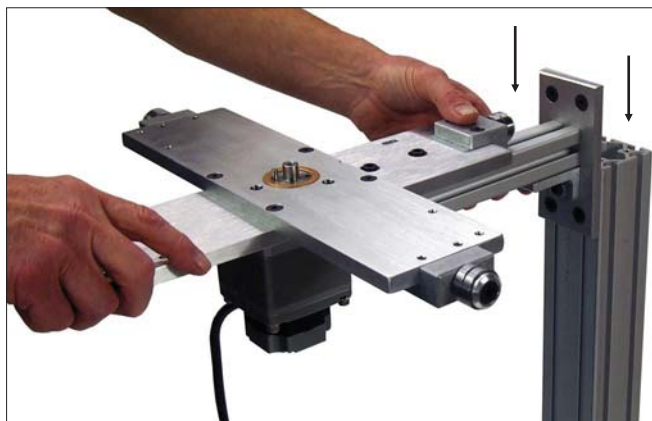

Fig. 3
2. Set the base upright and slide on the cross-frame assembly per Fig. 3. Secure the plate in the T-slots, using the 3/16" hex key. Secure the cross-frame down far enough on the column to leave sufficient column clearance above it to mount the tabletop and conveyor above (approx. 6" or so). The unit is now ready for installation of the tabletop (Step 3).